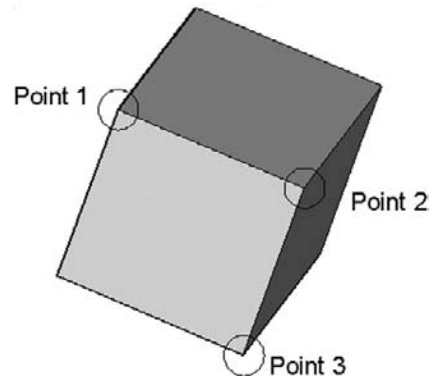

FIGURE 26.11
Step 3. Here, you need to click on and choose three consecutive source points on Block 2's face that you want used as points of attachment to Block 1. Several combinations are possible, so let us arbitrarily choose the points shown in Figure 26.11. As you select these three points,